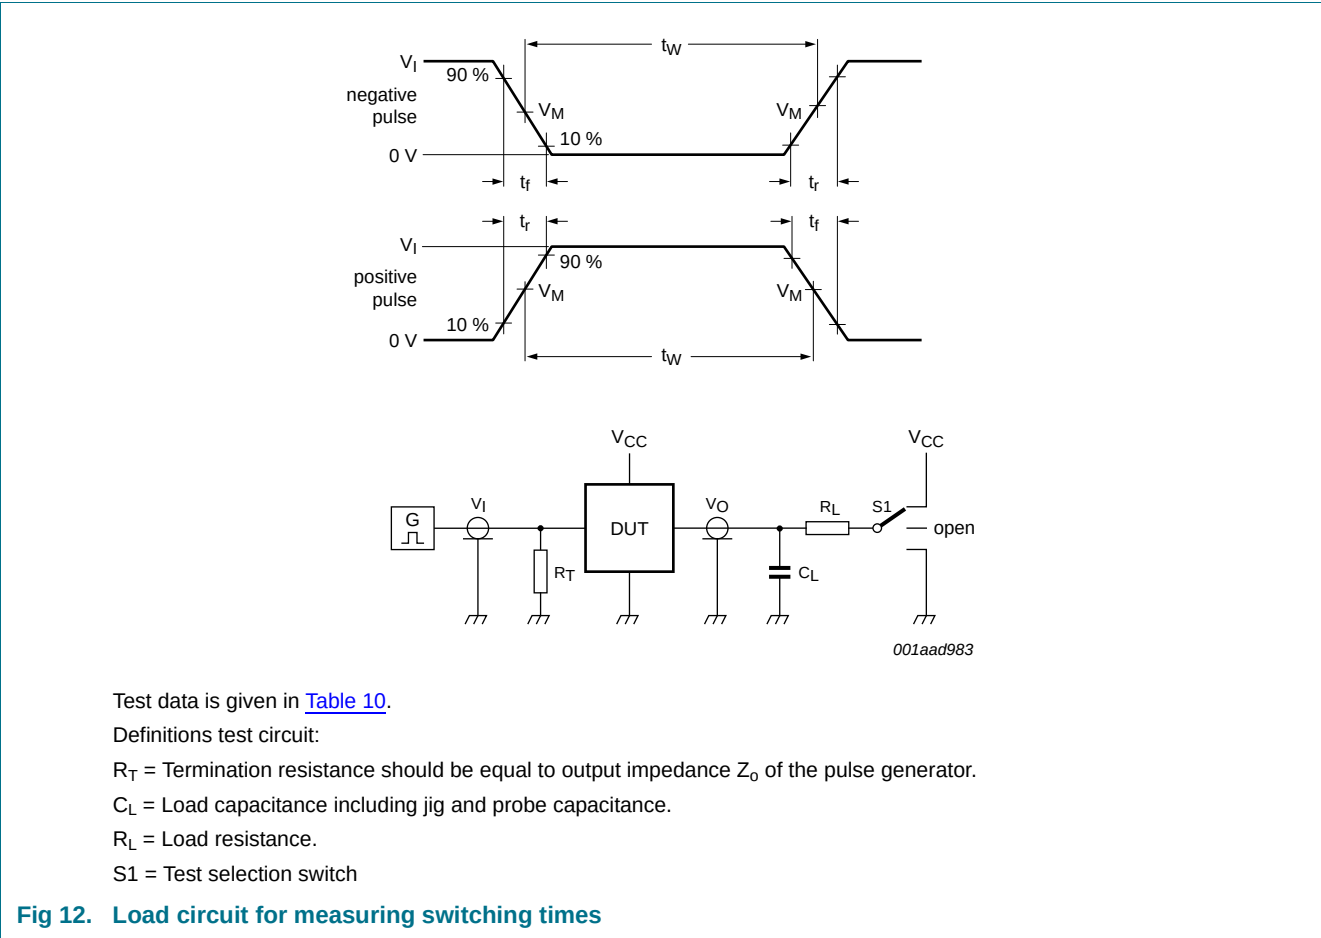

Fig 12. Load circuit for measuring switching times
**Table 8. Dynamic characteristics ...continued**Voltages are referenced to GND (ground = 0 V); for test circuit see Figure 12.
Voltages are referenced to GND (ground = 0 V); for test circuit see Figure 12.